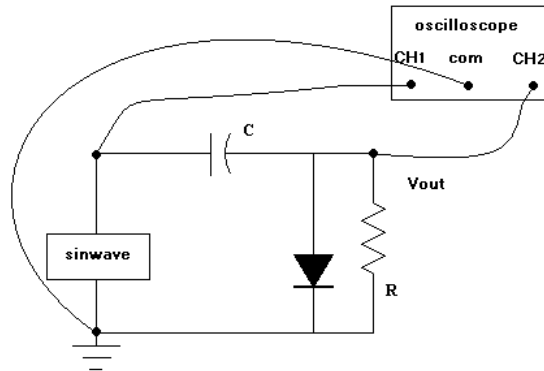

Figure 5.2
1. Connect the circuit in figure5.2.